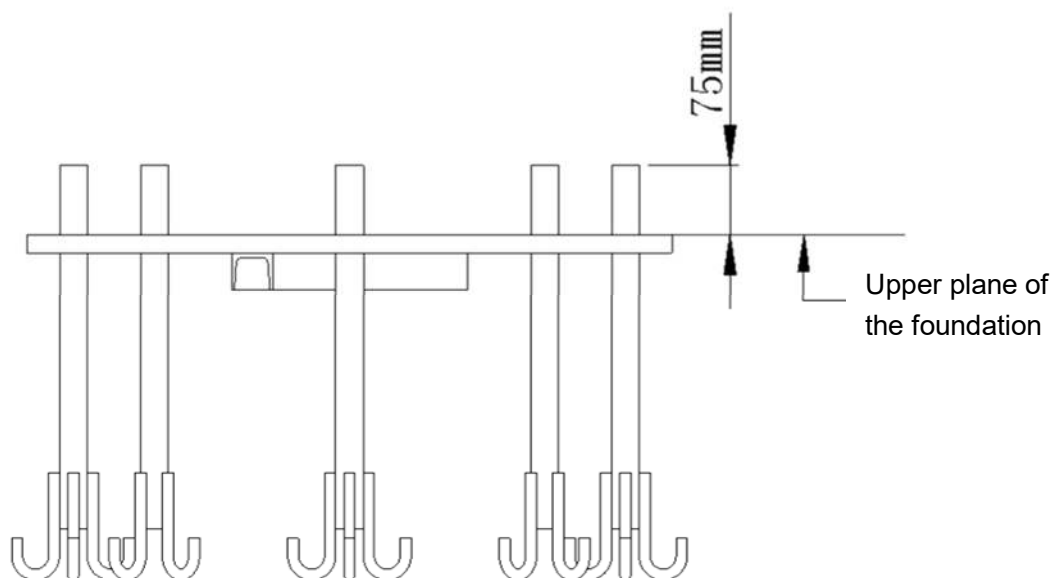

Fig. 2.2-2
1. Fix foundation onto the center of the slewing, after installing the embedded part, the flatness is not more than 1mm; bolt left out is not lower than 75mm height. (See Fig.2.2-2)